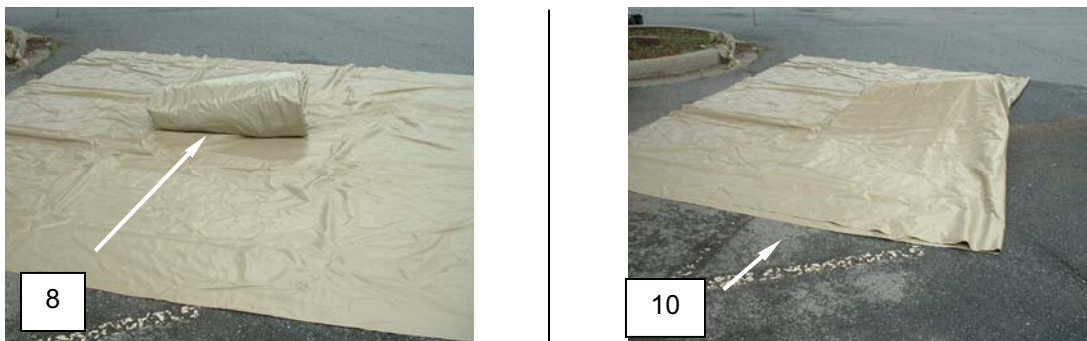

Figure 7. Prepare the 3000 Supply Water Tank for Movement.
17. Fold the ground cloth (Figure 7, Item 10) from one side to cover the tank (Figure 7, Item 8).